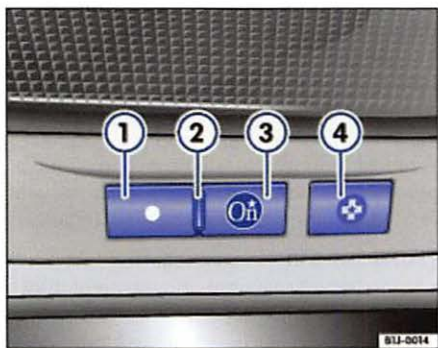

Fig. 10 DOT button
– Press the OnStar DOT button ⇒ fig. 10 ①, OnStar response <Ready>.